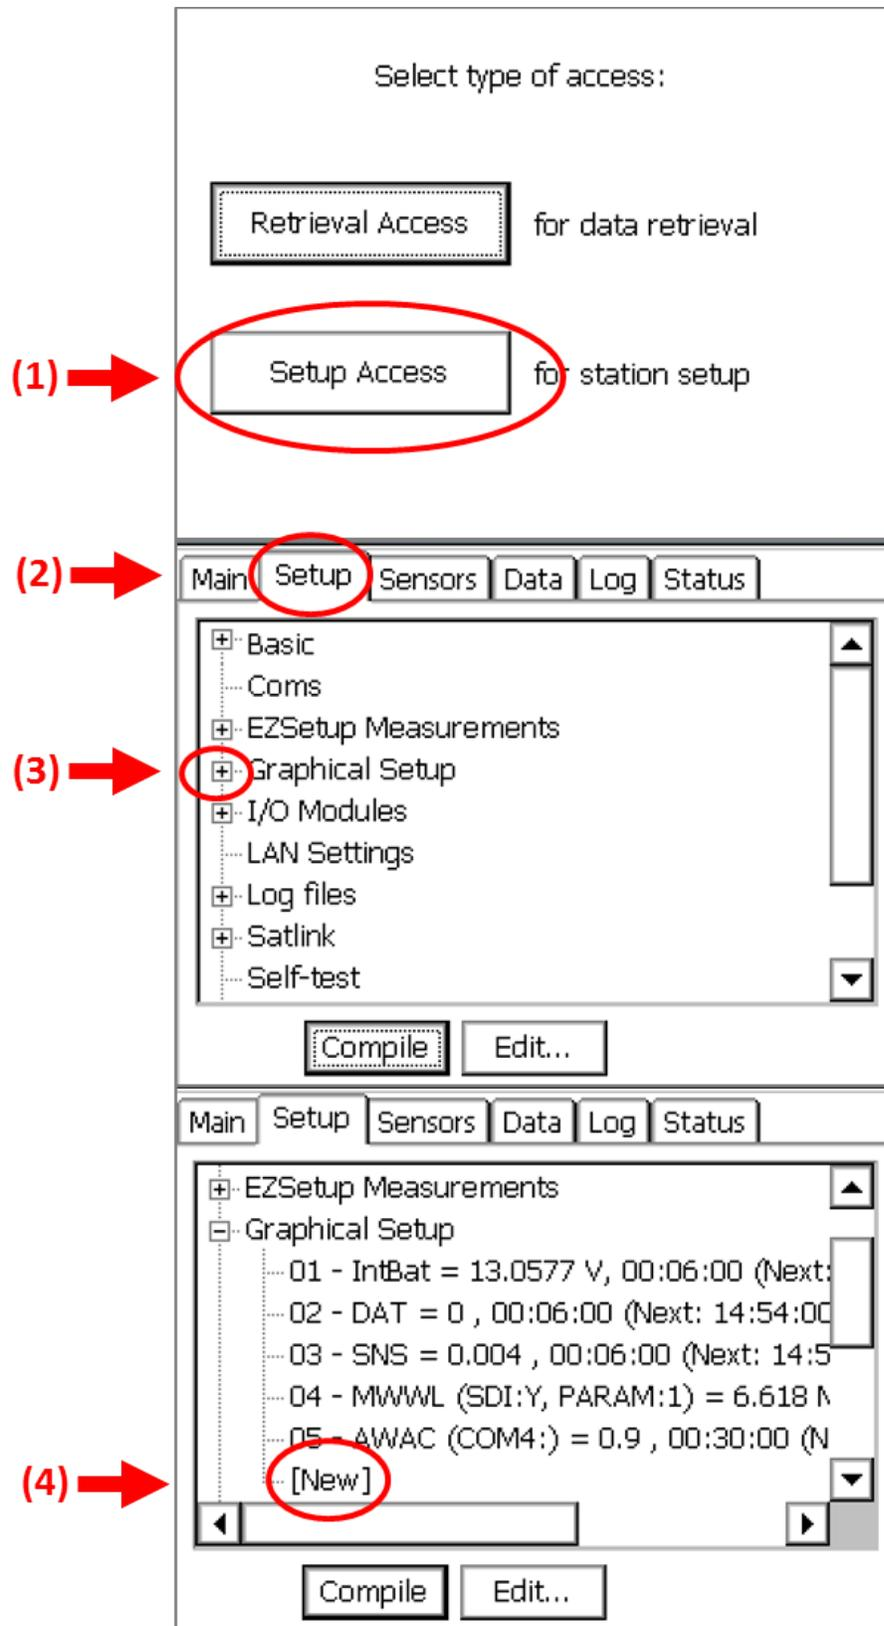

Figure A-1. Add a new graphical setup.
- (1) Go to **Setup Access** (fig. A-1).
- (2) Select the **Setup** tab.
- (3) Expand the **Graphical Setup** menu.
- (4) Select the **[New]** button.